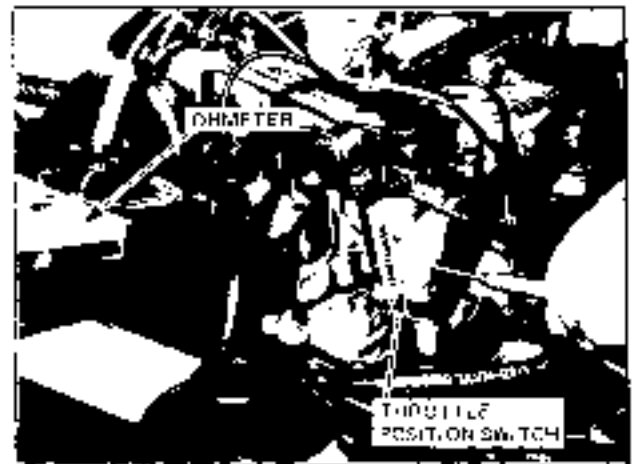

Figure 6D-51
3. Position the fast idle screw onto the second highest step of the fast idle cam. Refer Fig. 6D-52. Check that the switch is open, the ohmmeter reads 'infinite ohms'.